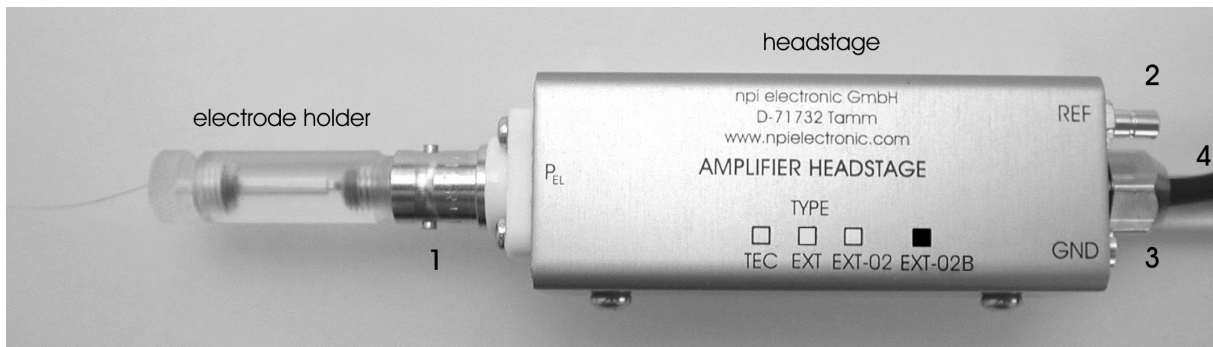

Figure 3: headstage and electrode holder (optional) and of the EXT-02 B
**Very Important:** EXT-02 B headstage are always labeled “EXT-02 B” (see Figure 3) and must not be exchanged with headstages from other npi electronic EXT amplifiers, e.g. the modular (EXT-10 2F or EXT-10C) or desktop (EXT-02F) which are labeled “EXT” or “EXT-02”!